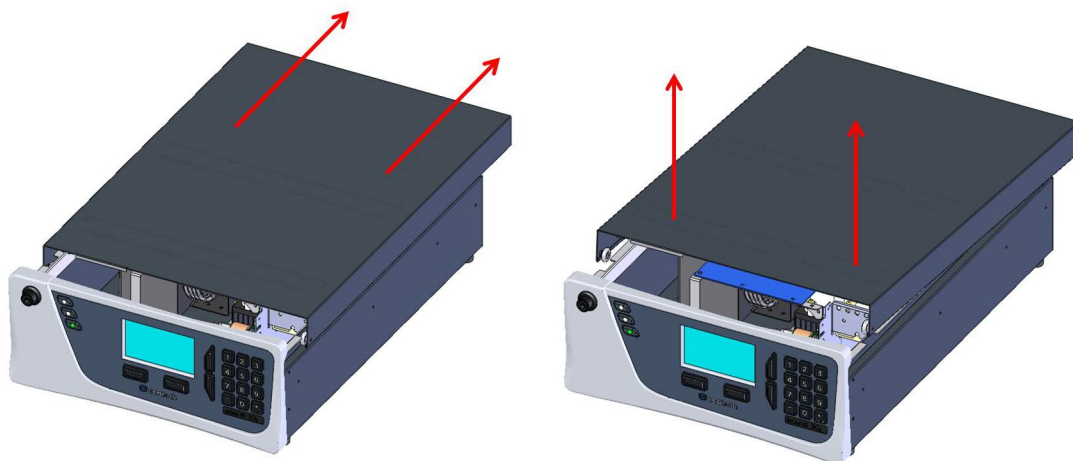

Figure 15 – Opening the Instrument
3. To completely remove the lid, slide the lid backwards until the rollers line up with the gaps in the track and pull the lid upwards to remove from the instrument (refer to Figure 15).